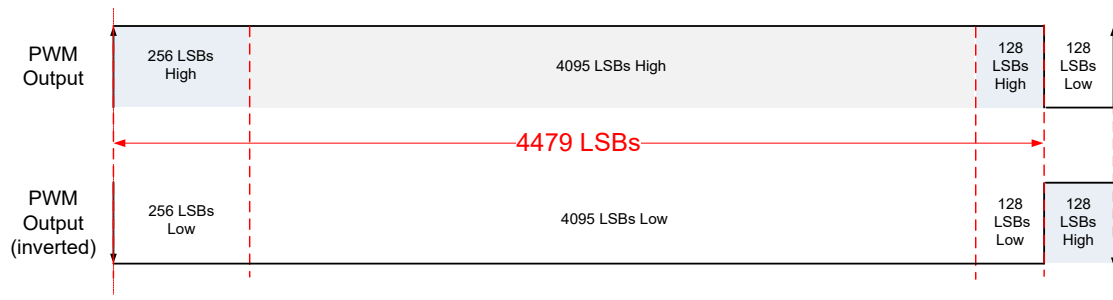
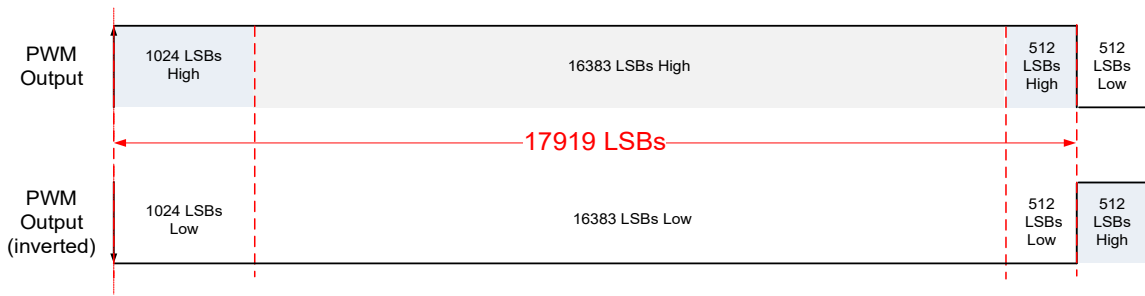

Figure 19. 12-bit PWM Signal in Diagnostics High mode
Figure 21. 14-bit PWM signal in Diagnostics High mode
- Diagnostic High mode, see Figure 19 and Figure 21.